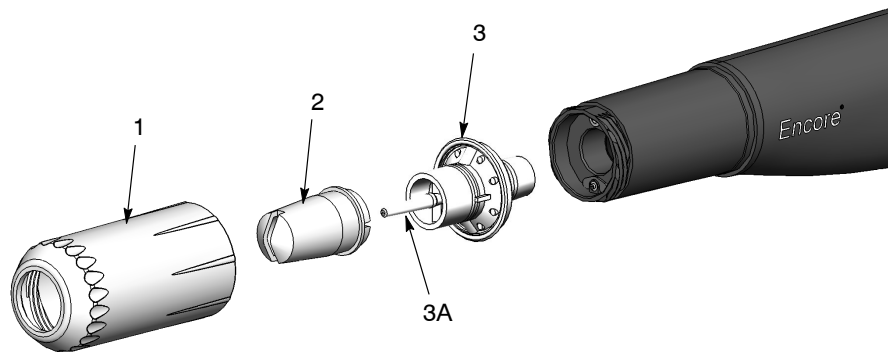

Figure 4-1 Flat Spray Nozzle Removal and Installation
1. See Figure 4-1. Unscrew the nozzle nut (1) counterclockwise.
2. Pull the flat spray nozzle (2) off the electrode assembly (3).